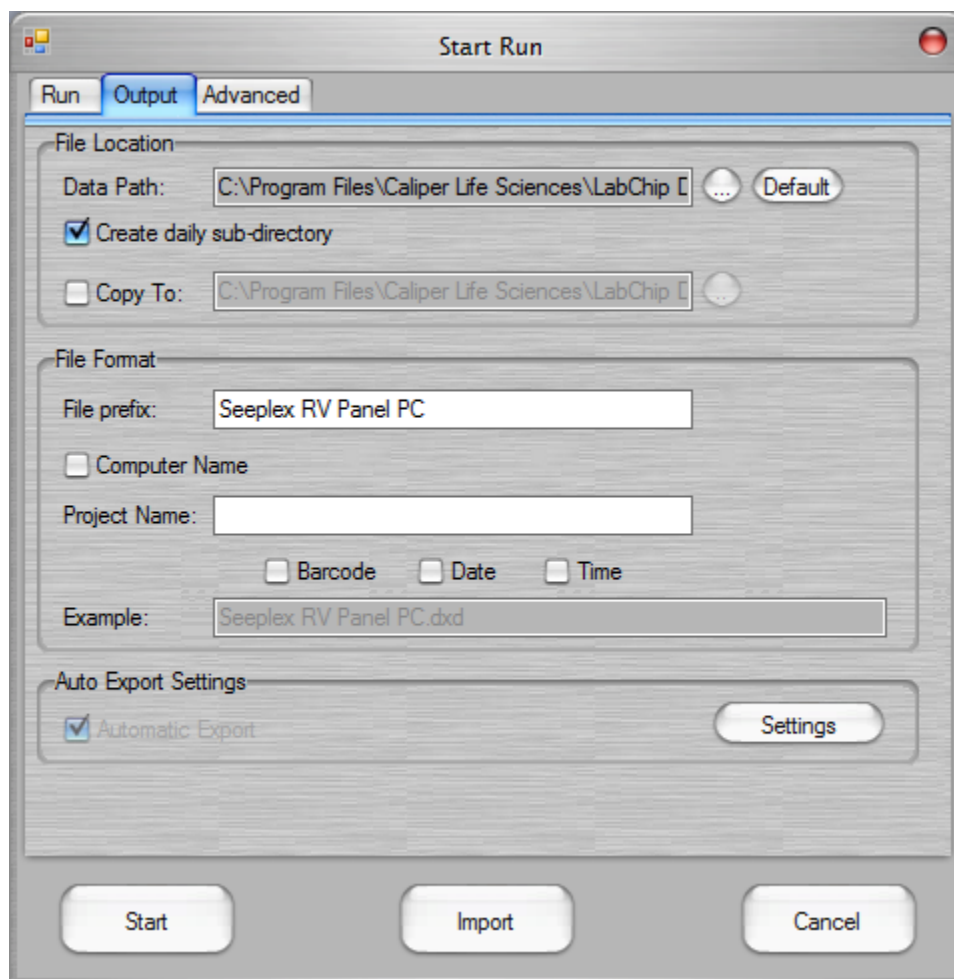

Figure 8. Output tab of Start Run window.
6. In the **Output** tab select the destination of the file, the filename convention and any additional data to auto export. See **Figure 8**.